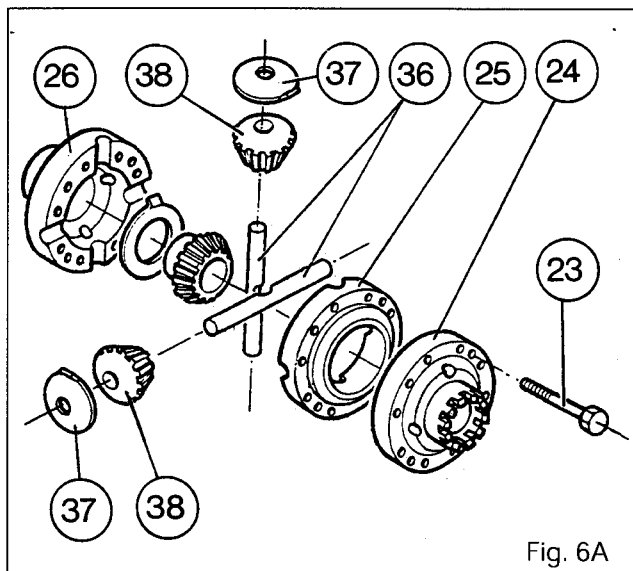

Fig. 6A
18. Separate the half housings (25), (26) and the cover (24).
19. Remove the sun gear (11) and washer (35).
20. Separate the pin or pins (36), the planetary pinions (38) and the spherical washers (37):
- Fig. 6A: AG 155,